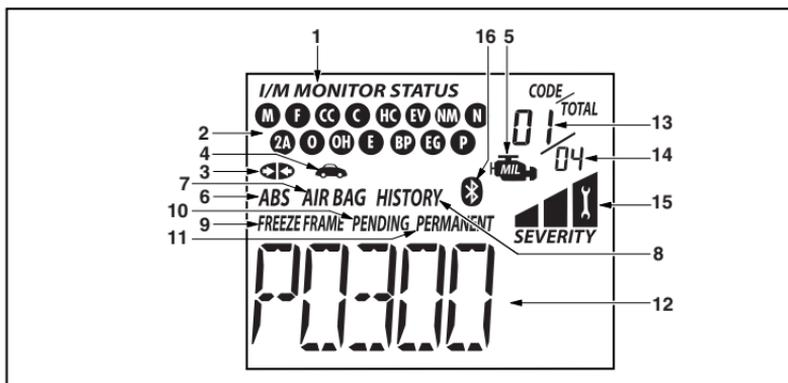

Figure 2. Display Functions
See Figure 2 for the locations of items 1 through 16 below.